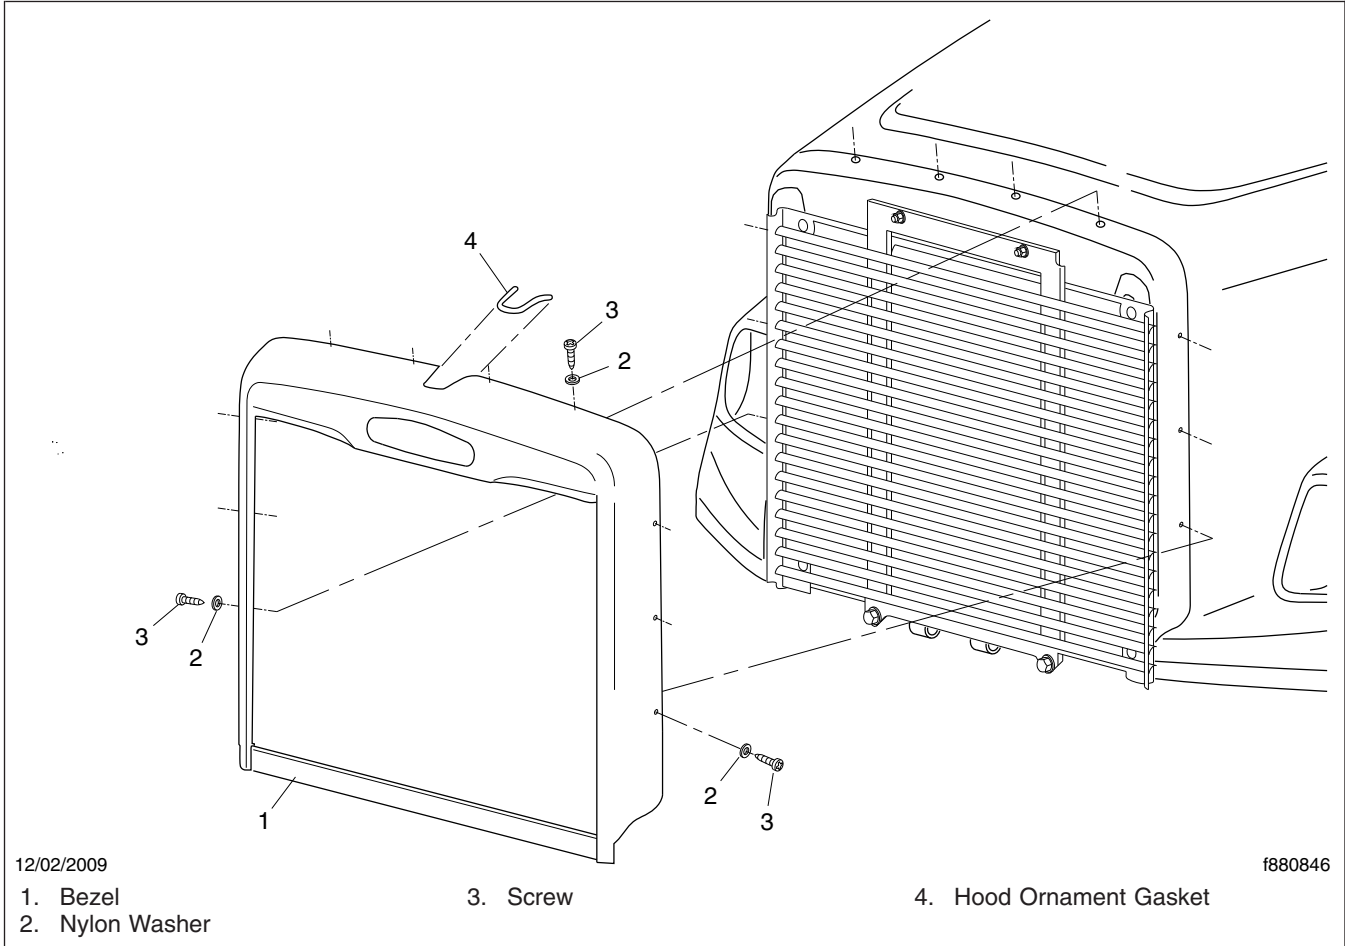

Fig. 3, Bezel Installation
2.1 Remove the screws that attach the bezel (grille surround) to the hood. Remove the bezel; see Fig. 3.
- 14.2 Attach the bezel to the grille, using the screws and nylon washers. See **Fig. 3**. Tighten the screws 18 to 22 lbf·in (205 to 250 N·cm).